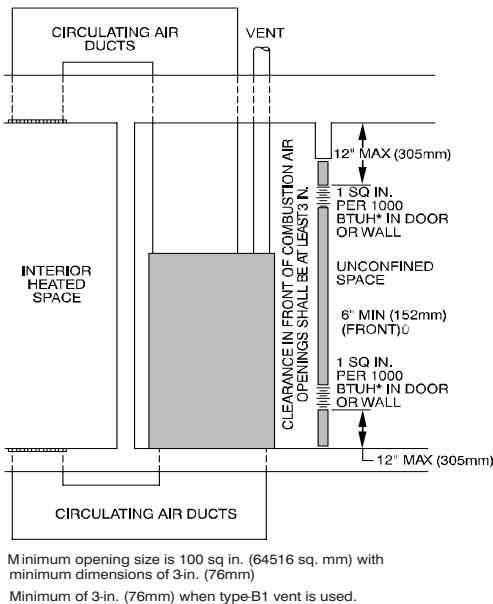

Fig. 7 – Air for Combustion, Ventilation, and Dilution from Indoors L12F013
- b. Combining spaces on same floor level. Each opening shall have free area of at least 1 in.2/1,000 BTU/h (2,000 mm²/kW) of the total input rating of all gas appliances in the space, but not less than 100 in.2 (0.06 m²). One opening shall commence within 12 in. (300 mm) of the ceiling and the second opening shall commence within 12 in. (300 mm) of the floor. The minimum dimension of air openings shall be at least 3 in. (80 mm). See Fig. 7.